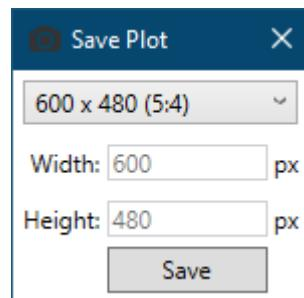

Figure 4.40: Set the width and height of the plot image.
- Save** plot images as PNG, PDF, or SVG files. Choose from common image sizes or define your own dimensions (Figure 4.40).